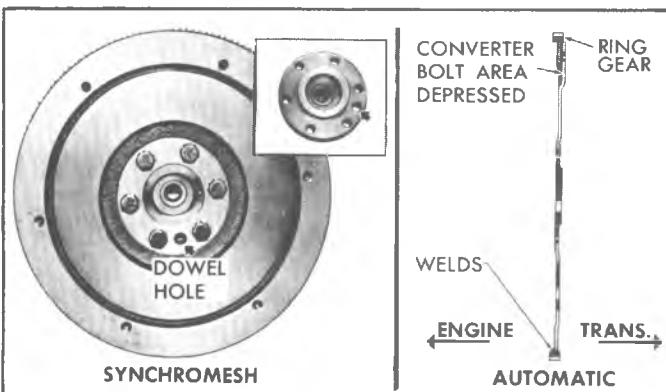

Fig. 30V—Flywheel Installation (Typical)
2. Install flywheel on crankshaft and position to align dowel hole of crankshaft flange and flywheel (fig. 30V).
- NOTE: On Automatic Transmission equipped engines, the flywheel must be installed with the flange collar to transmission side (fig. 30V).